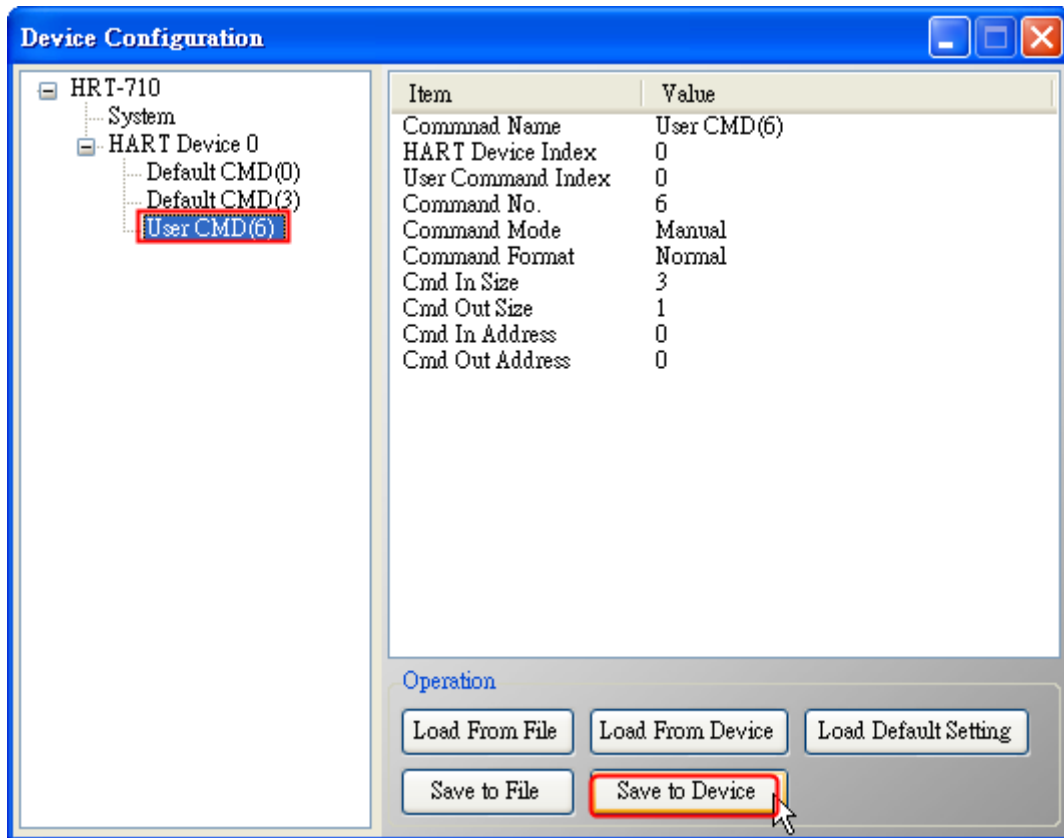

Figure 12-2 "Save to Device"
- (4) Click "Save to Device" button. (Figure 12-2)